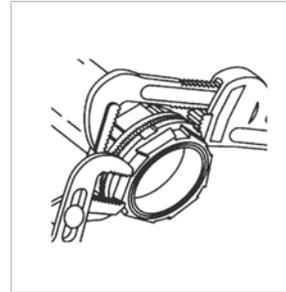

Figure 2
2. Locknut design with peripheral slots and a hexagonal/angled spline spaced every 30° enables easy application of torque with wrench or hammer and screwdriver. (See Figures 2 & 3)